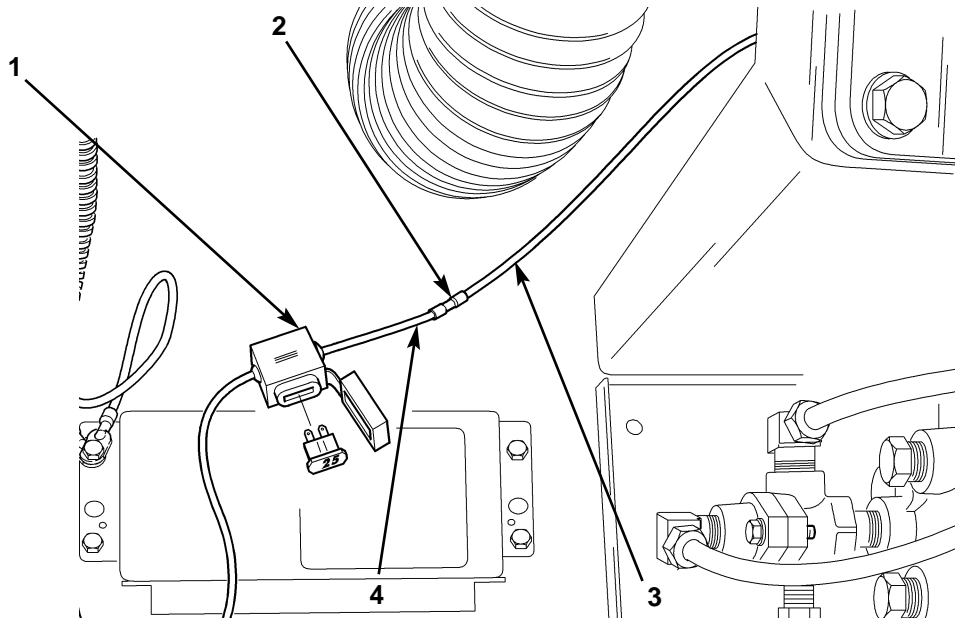

Figure 16. Connecting ABS ECU Harness to Battery Power.
17. Working under dash panel (figure 16, item 2), locate circuit 40 purple wire (figure 16, item 3), and connect 36 in. (91 cm) 30-amp fused red wire (figure 16, item 4) to purple wire (figure 16, item 3) with new wire connector (figure 16, item 1).